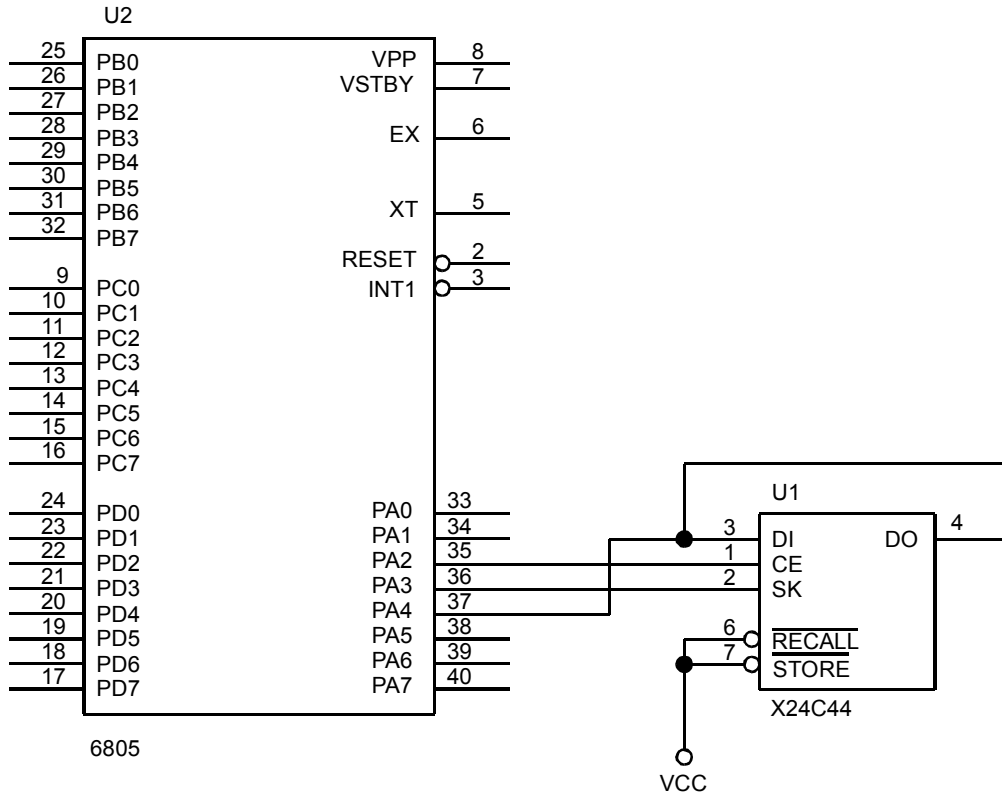

FIGURE 1. TYPICAL HARDWARE CONNECTION FOR INTERFACING AN X24C44 TO A 6805 MICROCONTROLLER.
The following code demonstrates how the Intersil X24C44, X24C45 serial NOVRAMs could be interfaced to the 6805 microcontroller family when connected as shown in Figure 1. The interface uses port A, with the PA3 pin connected to the serial clock (SK), PA2 connected to chip enable (CE), and PA4